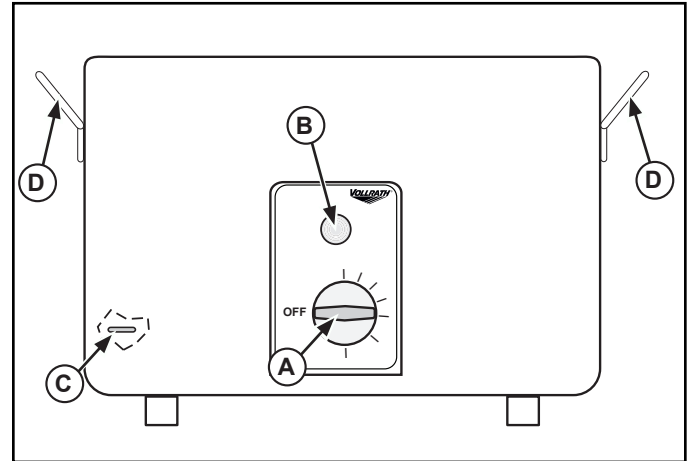

Figure 1. Features and Controls.
1. Fill the well to the correct level water mark (C) with clean fresh water. Correct level is about 5 cups of water. Do not over fill. See Figure 1.